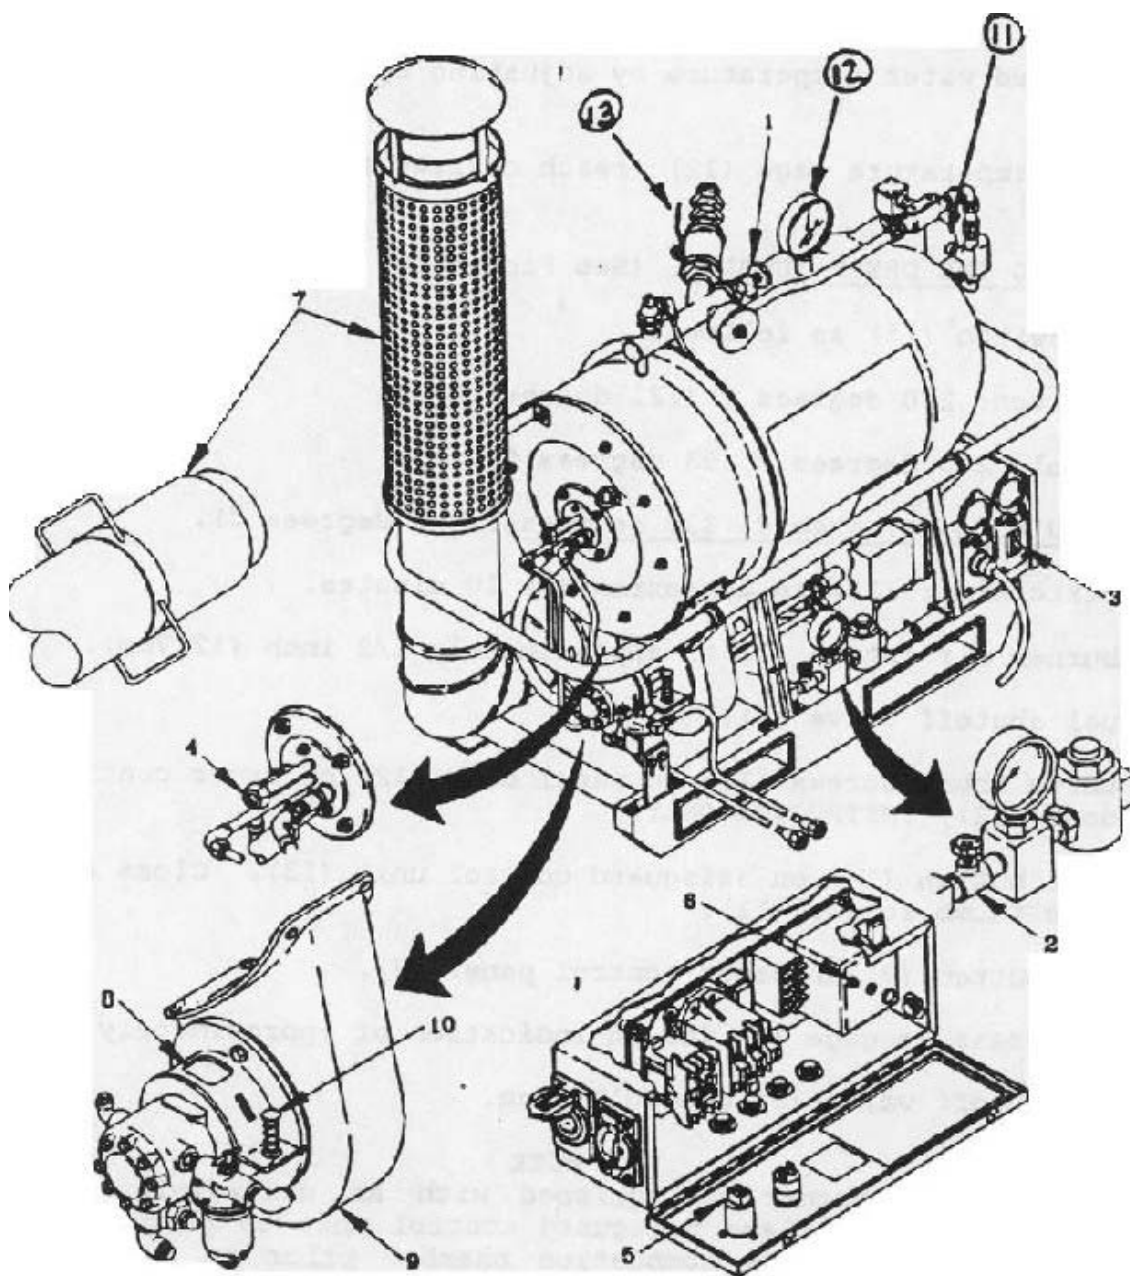

Figure 3-9
- f. Install the smokestack. (See Figure 3-9)